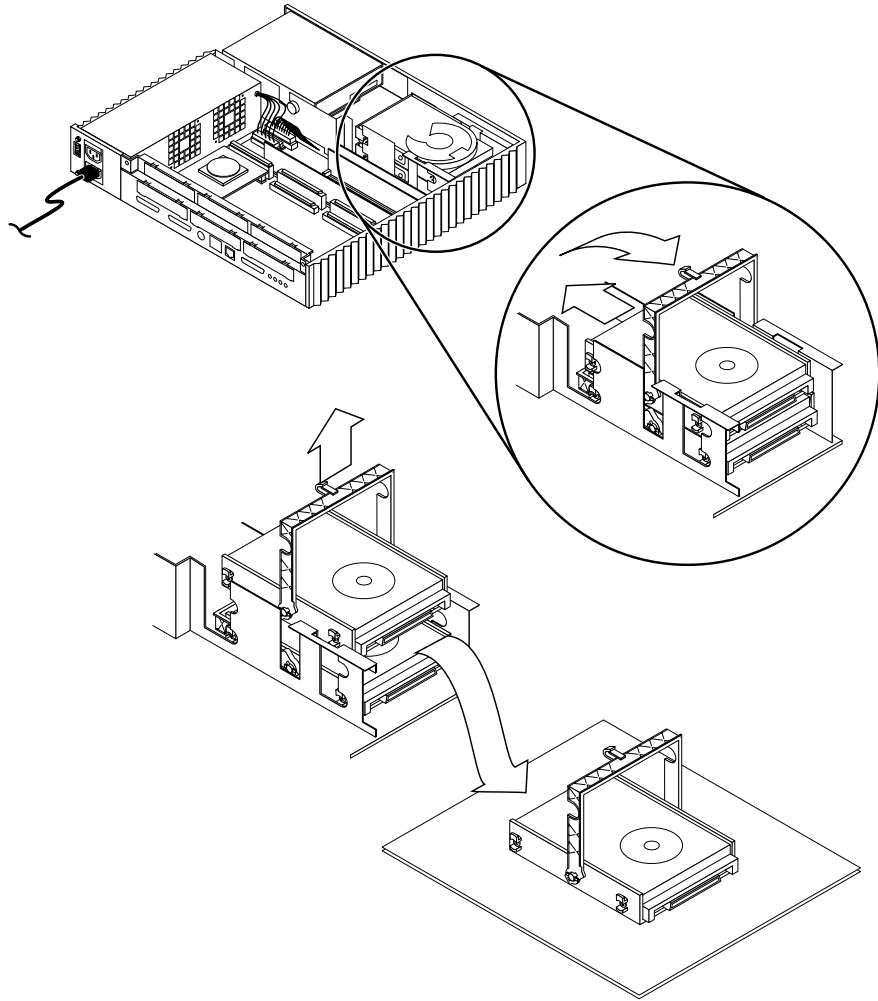

FIGURE 9-3 Removing a Hard Disk Drive
5. Lift the drive handle up (FIGURE 9-3).